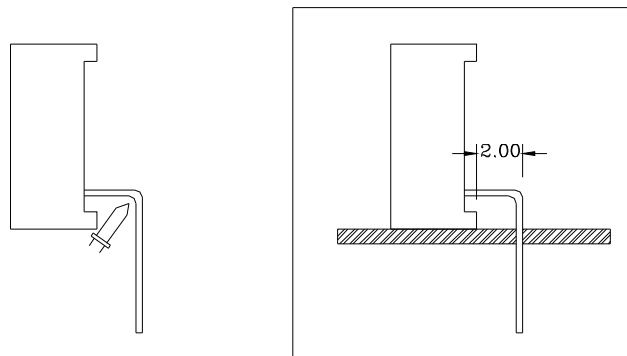

Fig.5
- 1) The PIN should be bent at a point located at least 2mm away from the package. Bending should be performed with base fixed means of a jig or pliers (Fig.5)